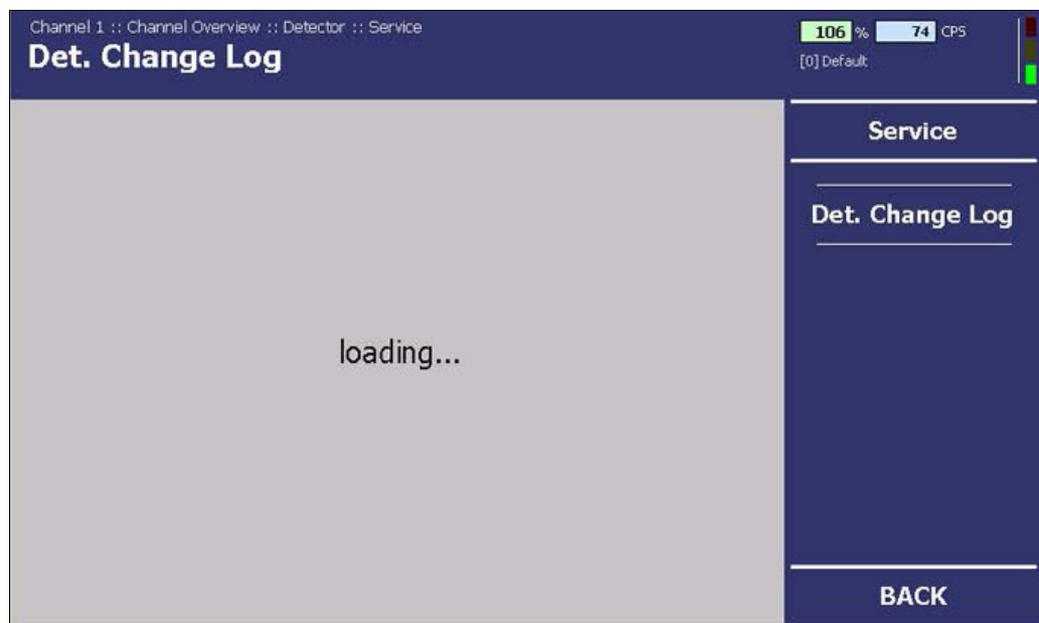

Fig. 32 "Channel Overview" menu, Detector, Service (Data export in progress)
- ⇒ The data export starts automatically. During the export, the message "loading..." (Fig. 32) is displayed.